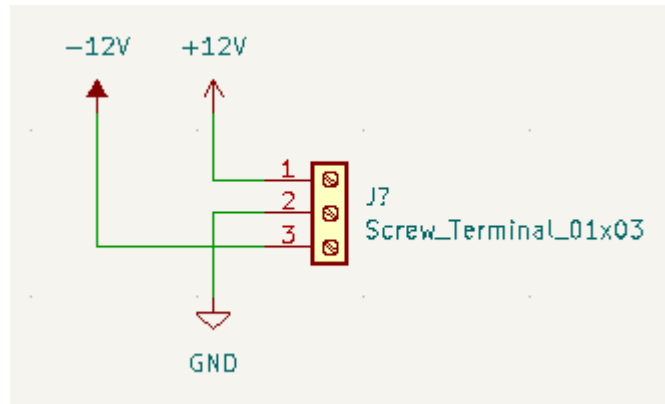

Figure 2: Screw-terminal power block segment of the schematic. The negative supply is *not* connected to *GND*.
9. There are things to be very careful of when doing the wiring! Be sure that the wires go to the *terminals* at the ends of the parts; otherwise they’re not really connected. Also understand that crossing wires don’t connect by default. In figure 2, $-12V$ is *not* connected to *GND*! If you want two wires to connect, use the Junction (‘J’) tool and click on the intersection.